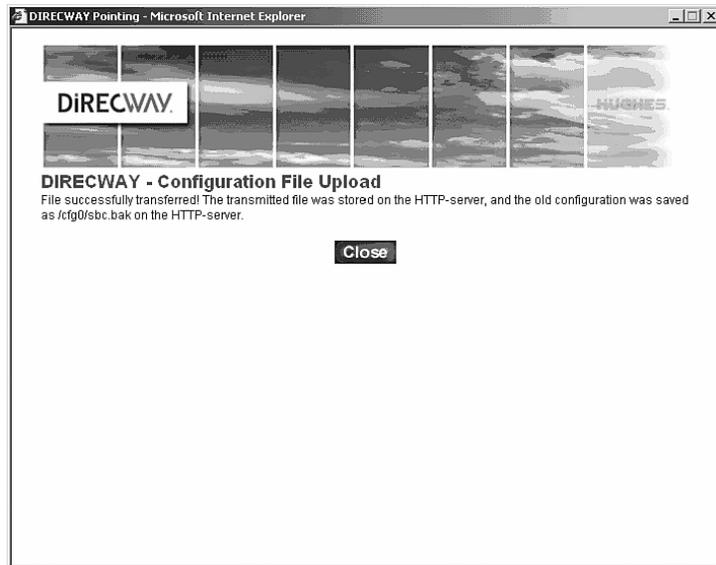

Figure 17: Confirming sbc.cfg file upload to the remote terminal
8. Click **Close** on the Configuration File Upload screen shown in Figure 17 to return to the Setup screen.